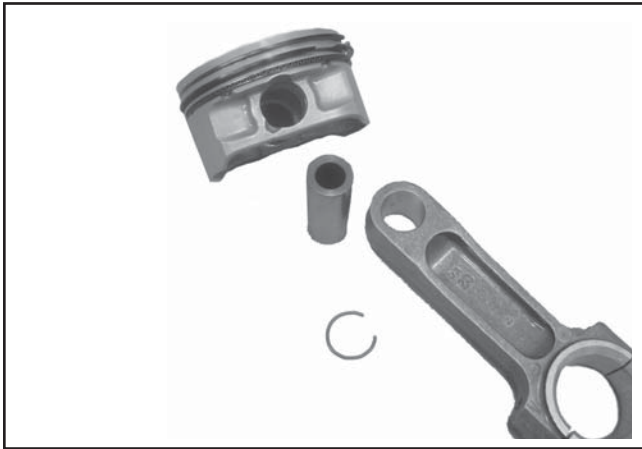

Figure 8-50. Separating Piston from Connecting Rod.
1. Remove the wrist pin retainer and wrist pin. Separate the piston from the connecting rod. See Figure 8-50.